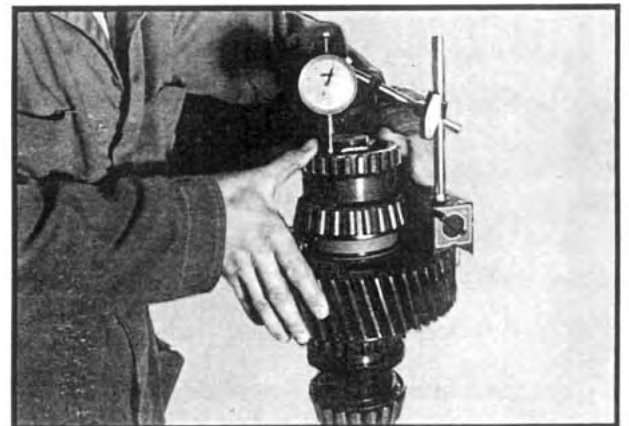

Fig 24
6. To facilitate reassembly, the gear end float on the shaft should be checked prior to further disassembly. Install a dial indicator with a magnetic base as pictured in Figure 24. Lift upward on the gear and note the amount of end float.